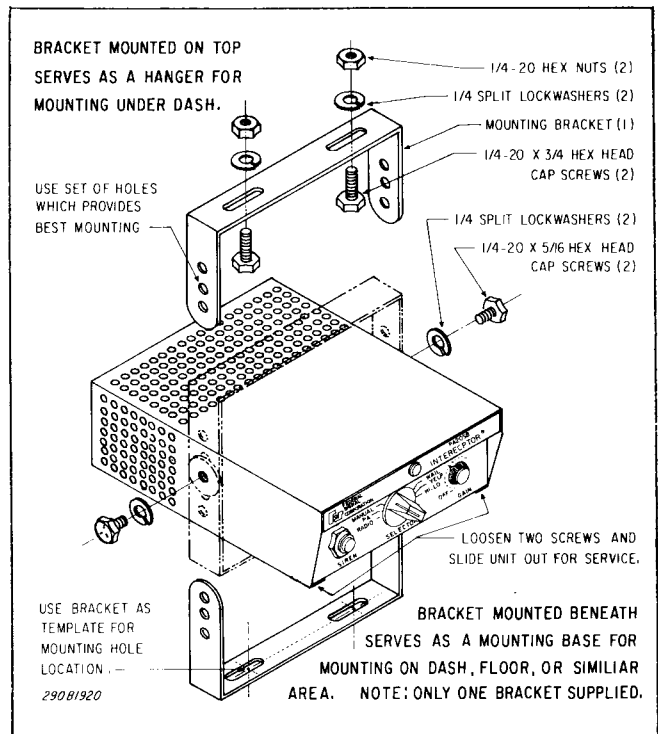

Figure 2. Mounting Bracket Installation.
The electronic siren comes equipped with a swinging bracket which enables it to be mounted in a variety of positions (see figure 2). Positioning the bracket above the unit allows mounting to the underside of the dash. Positioning the bracket below the unit will permit mounting above the dash or on any horizontal surface. The unit should be mounted in a position that is both comfortable and convenient to the operator. After determining the mounting position, proceed as follows:
- C. Mount the bracket with the $\frac{1}{4}$ -20 x $\frac{3}{4}$ hexagon head machine screws, $\frac{1}{4}$ -20 hexagon nuts and $\frac{1}{4}$ -inch split lockwashers as shown in figure 2.
of mounting holes in the bracket. Mount the unit to the bracket with the two $\frac{1}{4}$ -20 x $\frac{5}{16}$ hexagon head machine screws as shown in figure 2. The unit may be tilted to any convenient position.